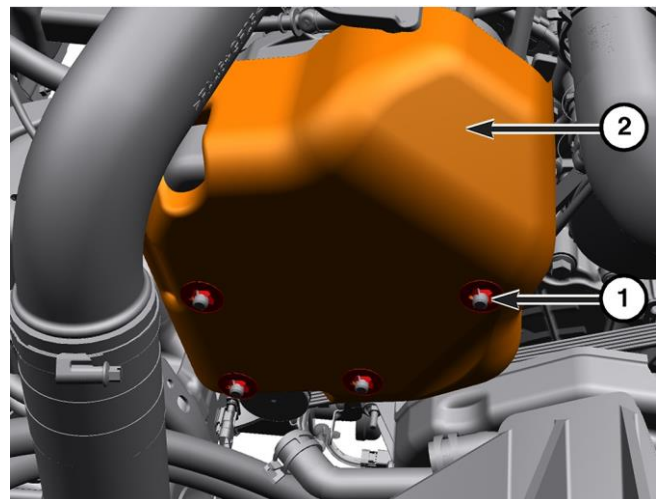

Figure 80 – HPFP Cover
2. Remove the retainers (1) that secure the cover (2) for the high-pressure fuel pump (Figure 80).
44. Install the cover and secure with the retainers (Figure 80).